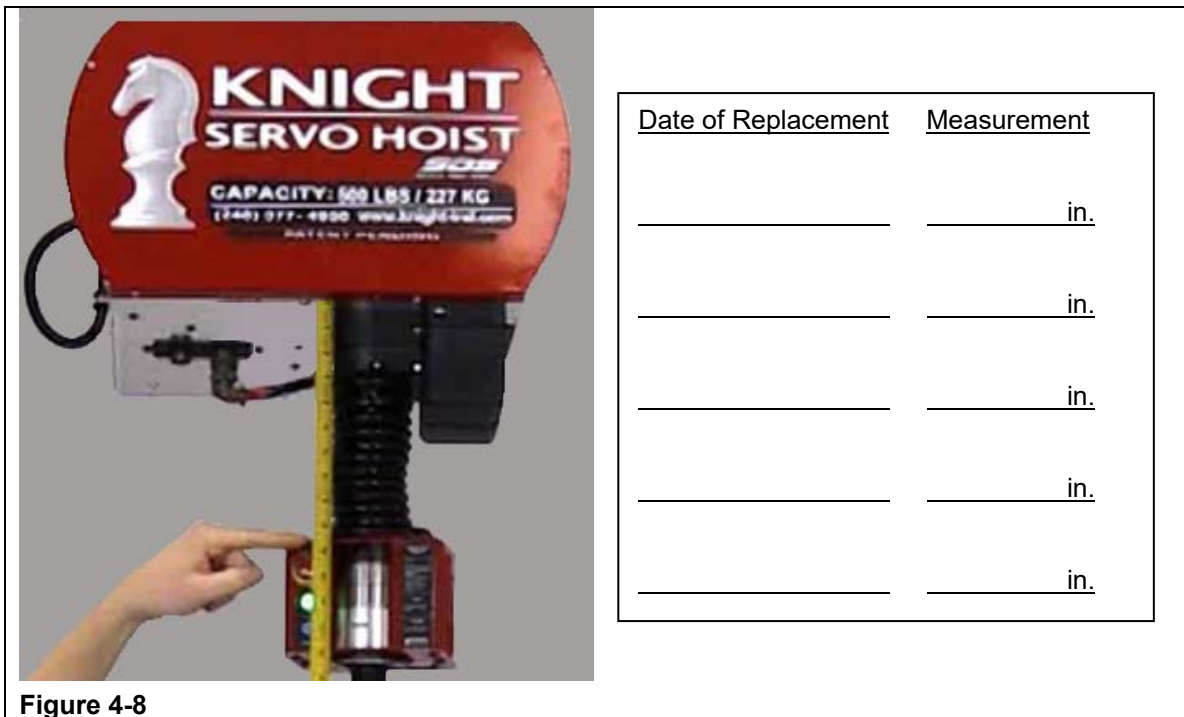

Figure 4-8
- Step 2. Measure the distance from the top of the inline handle to the bottom of the servo hoist. (Refer to Figure 4-8)